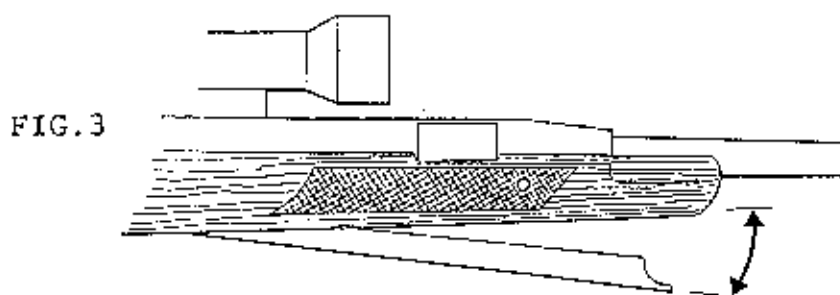

FIG.2A
***** WHILST INSERTING A PELLET (FIG.2A) *****